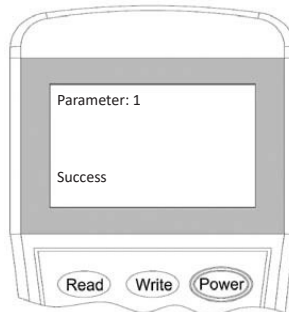

Figure 8
4. Input the “**1**” then press “**Write**” to change the setting (Figure 8) and LED will turn-off. To resume the default setting, press “**Clear**” and then press “**Write**”.